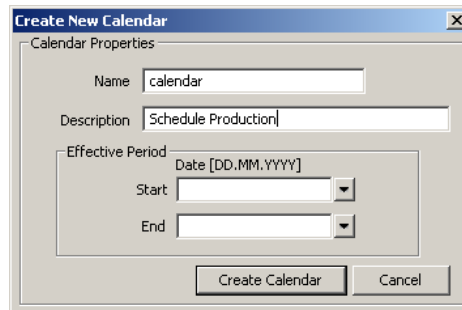

Figure 86: Create New Calendar dialog box.
3. In the Create New Calendar dialog box (as shown in Figure 86) enter Name and Description of the calendar. Note, that a BACnet calendar does not have the **Effective Period** settings.